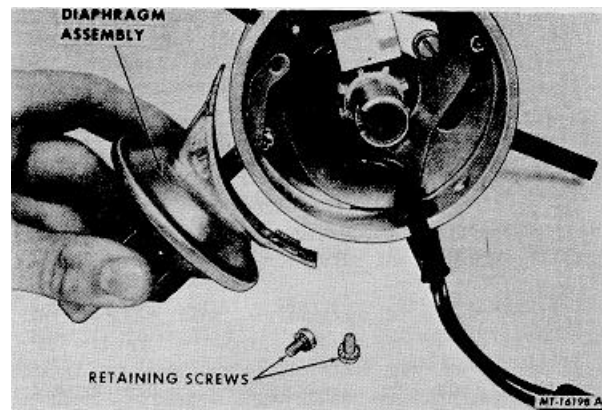

Fig. 16 Removing Vacuum Advance Diaphragm
3. Remove vacuum advance diaphragm mounting screws and remove diaphragm assembly from distributor housing (Fig. 16).